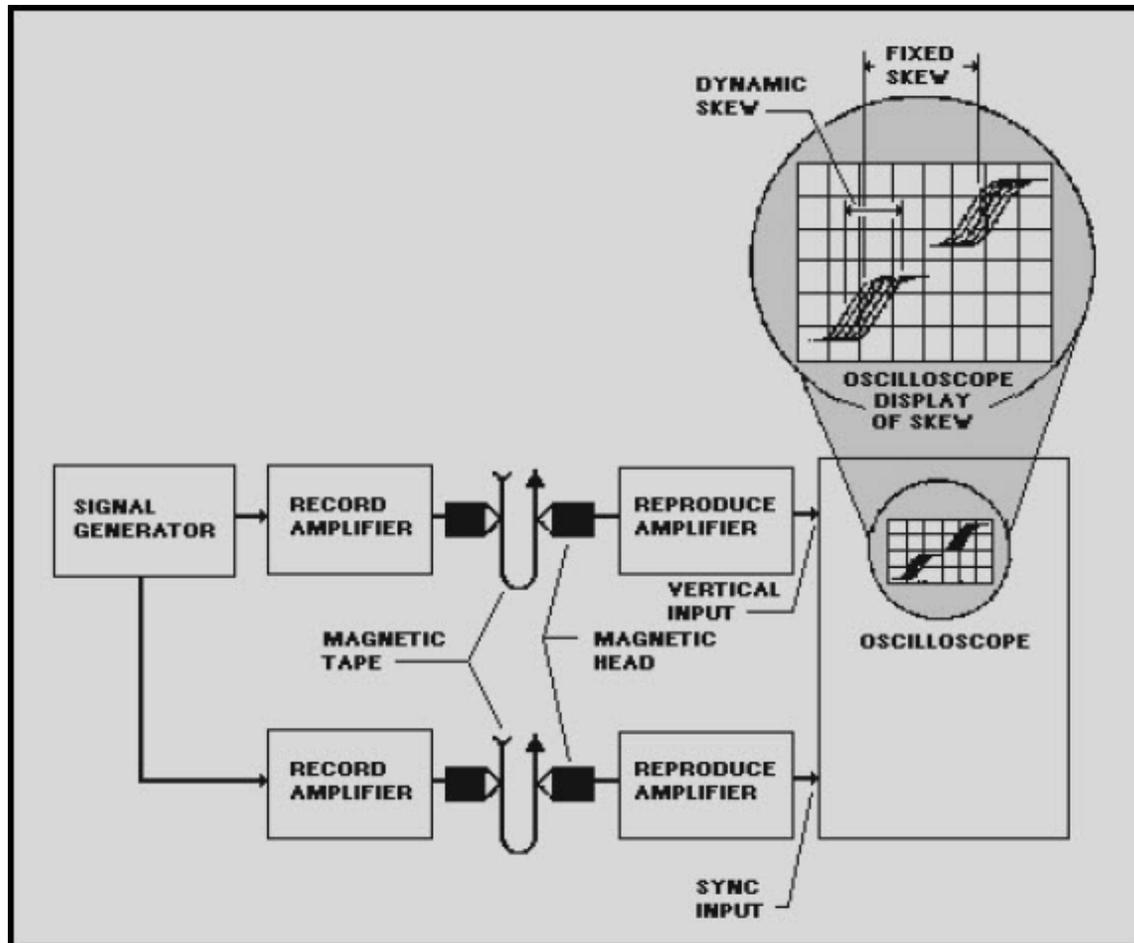

Figure 6-10 Test equipment setup for measuring skew
Skew is best measured with an oscilloscope. Figure 6-10 shows a typical test equipment setup for measuring skew. The technical manual for the magnetic tape recorder you're testing will tell you how to set up the signal generator. After test equipment setup, measure the skew as follows:
4. While recording and reproducing the test signal, measure the fixed and dynamic skews which are displayed on the oscilloscope. Figure 6-10 shows how this looks.